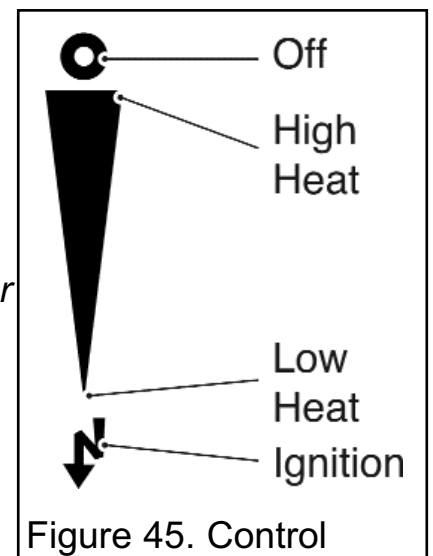

Figure 45. Control
The control position markings on the fascia are shown in figure 45.
4. Gradually slide the button up to increase the burner setting. The burner should be at its maximum setting at the high heat position shown in figure 45. You should feel a check to the button movement at this position.